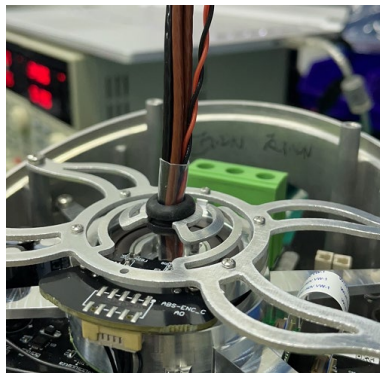

Figure 3-19 Insert the wire guard ring
- Wire guard: put the rubber guarding ring around the wire bundle, and push it all the way down to around the heat shrinking tube. Then put the wire guard ring on the wire rack as shown in Figure 3-19: